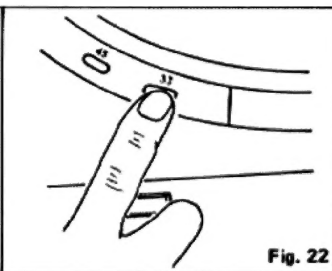

Fig. 22
3. Select turntable speed with the SPEED button according to the rpm of the disc. (Fig. 22)